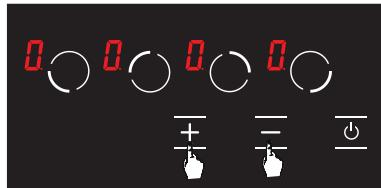

Figure 7
3. Cooking level of the relevant hob may be set from 1 to 9 using the **+** and the **-** keys or from **H** to 9 as per the option of the stove. (See Fig. 7)